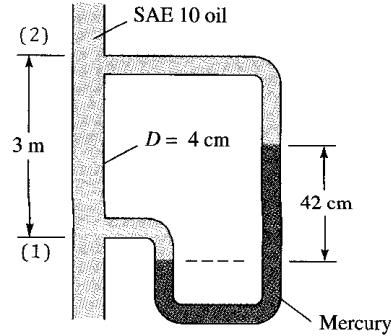

Fig. P6.30
- 6.30** SAE 10 oil at 20°C flows through the 4-cm-diameter vertical pipe of Fig. P6.30. For the mercury manometer reading  $h = 42$  cm shown, (a) calculate the volume flow rate in  $\text{m}^3/\text{h}$ , and (b) state the direction of flow.
**Solution:** For SAE 10 oil, take  $\rho = 870 \text{ kg/m}^3$  and  $\mu = 0.104 \text{ kg/m}\cdot\text{s}$ . The pressure at the lower point (1) is considerably higher than  $p_2$  according to the manometer reading: